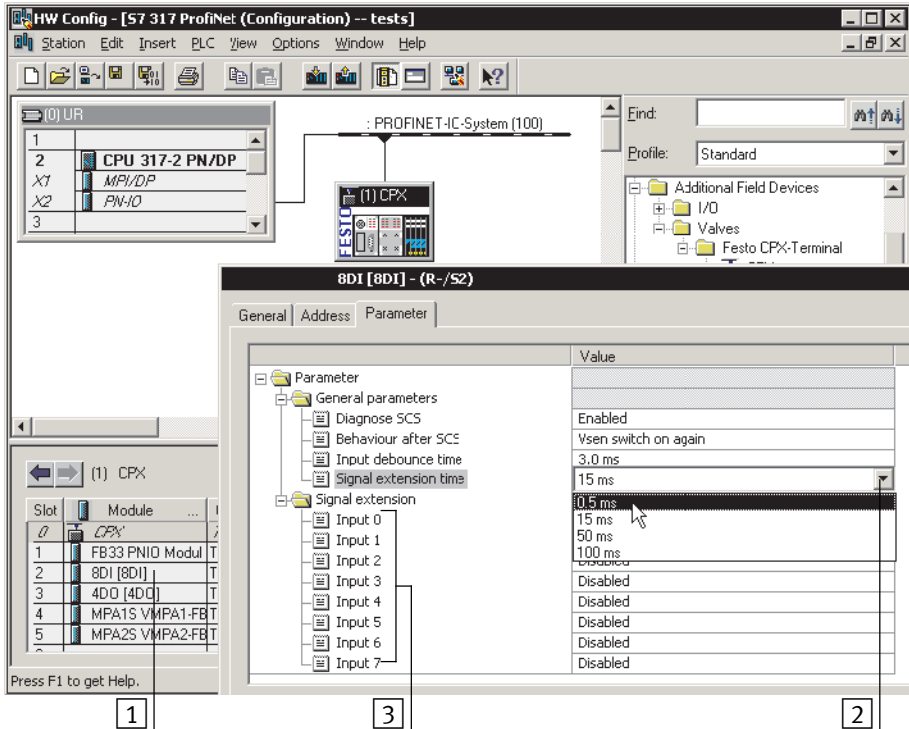

Fig. 2/15: Setting module parameters with Siemens STEP 7
2. Double click in the configuration table on the description of the module you would like to parameterise (1 in Fig. 2/15). The “Properties ...” dialogue window is displayed.
3. Click on the parameter value (“Value”) which you wish to modify. A list with the possible values will be opened (2).